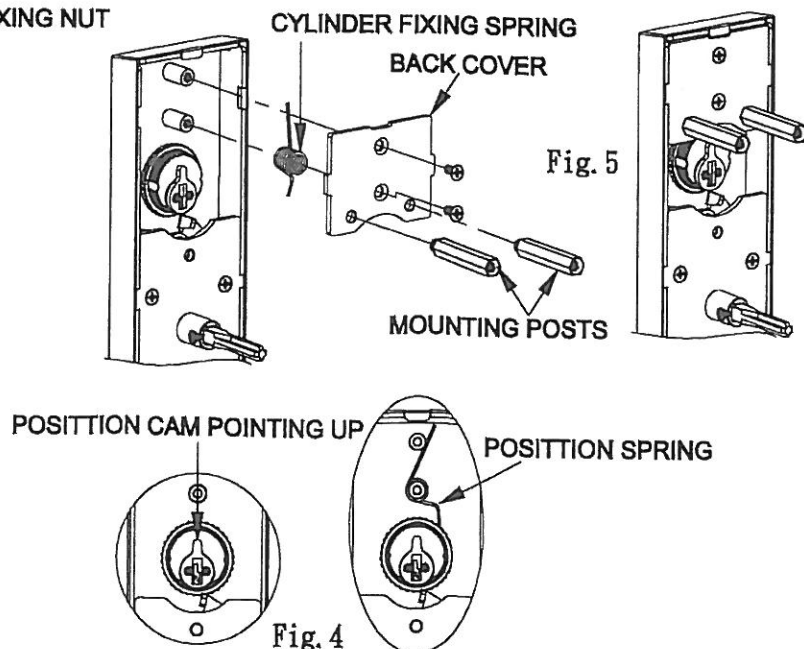

Fig. 4
2. Position cylinder cam & install cylinder fixing spring as shown.(Fig.4)